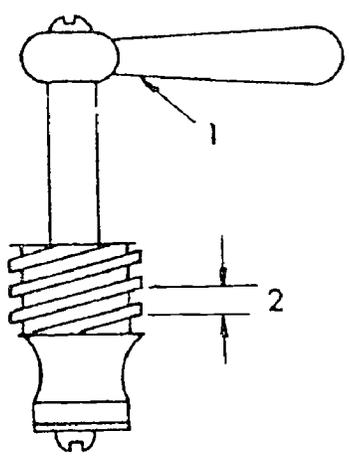

Fig. 2
3. What type of faucet stem is represented in figure 2, Diagram 33?
5. In figure 2 (Diagram 33), what is represented by the portion labeled number 2?